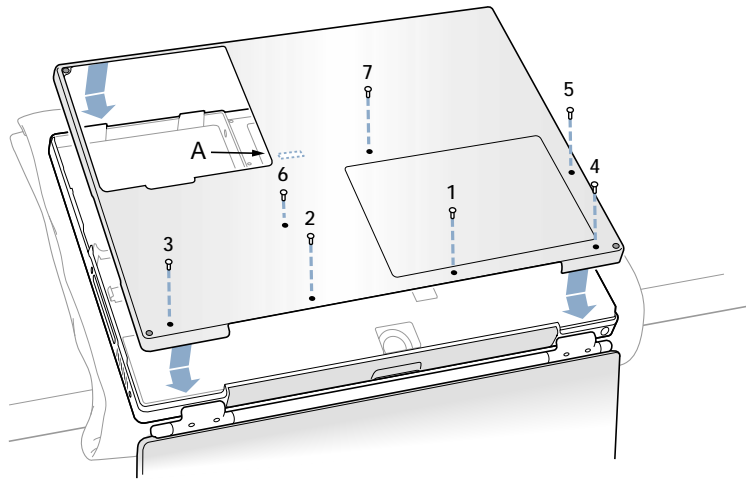

Figure 14
2. Replace the seven screws in the order shown in the illustration (**Figure 14**).